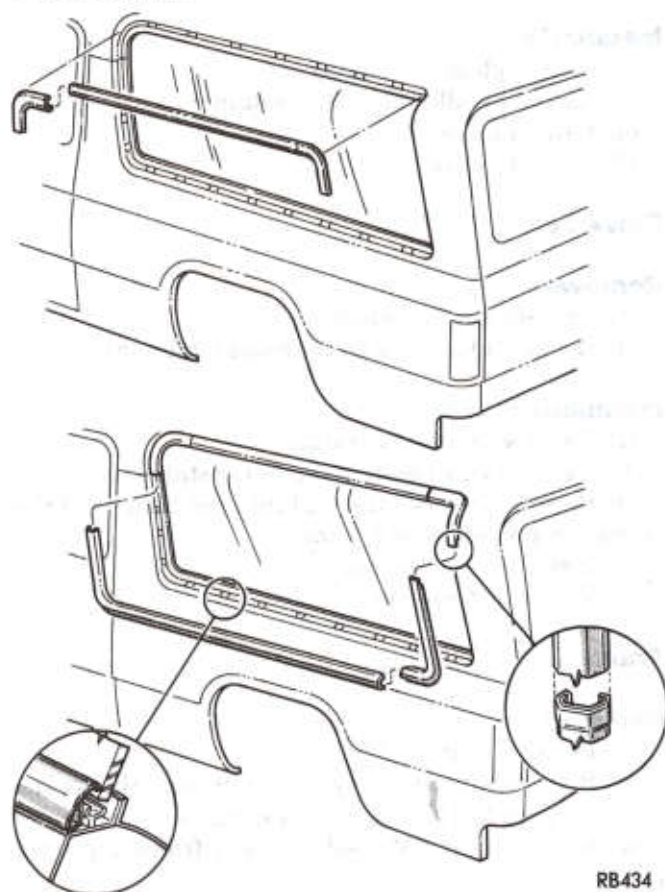

Fig. 9—Quarter Window Mouldings
- (2) Remove exterior mouldings (Fig. 9).
- (3) With an electric knife (Miller tool 4386 or equivalent) cut existing butyl tape as close as possible to fence flange.